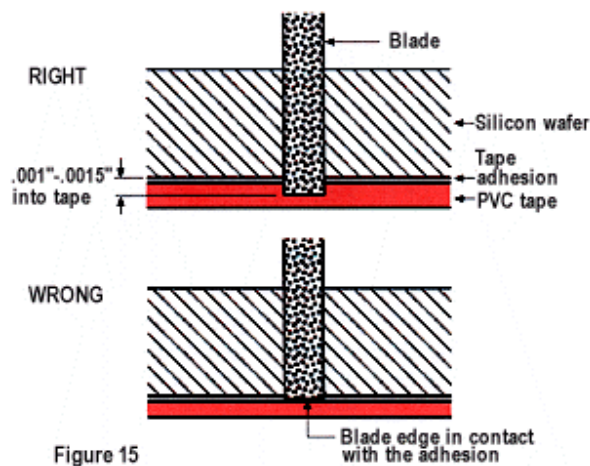

Figure 15
1. On silicon application using nickel type blades it is important to cut .001" - .0015" into the tape (figure 15). Cutting less than .001" into the tape can cause an overload situation because of contact between the blade edge and the tape adhesion. Overloading the cutting process will create high temperatures, resulting in excess to much chipping and cracking.